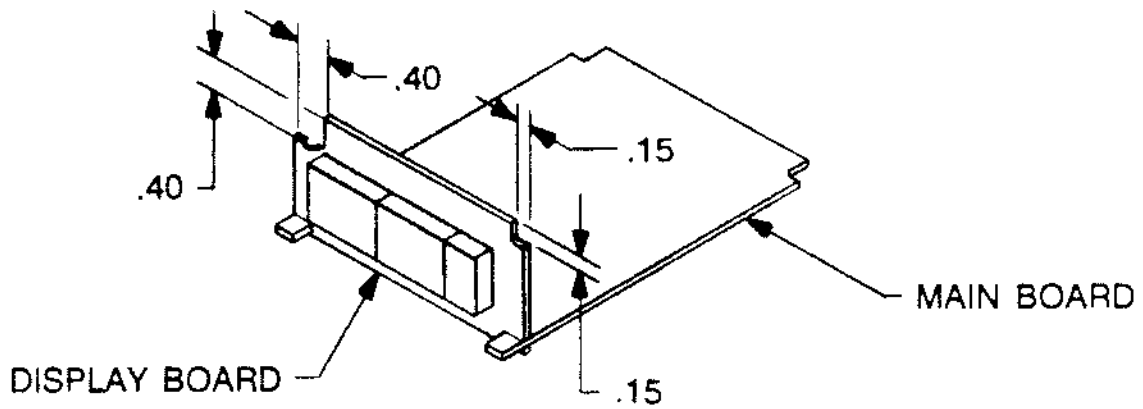
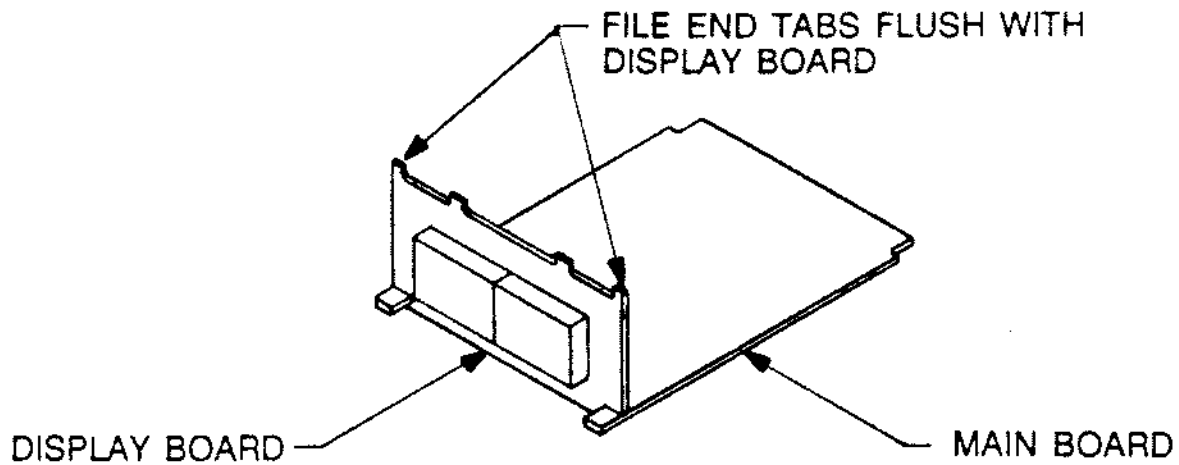

Figure 3-2 F3A Display Board Modifications
Figure 3-3 F3A Display Board Modifications
5. Modify display board per Figure 3-2 for 267B, 268, 204A/B, 2004, 2003B, and 258 and per Figure 3-3 for 2003A and 203A.